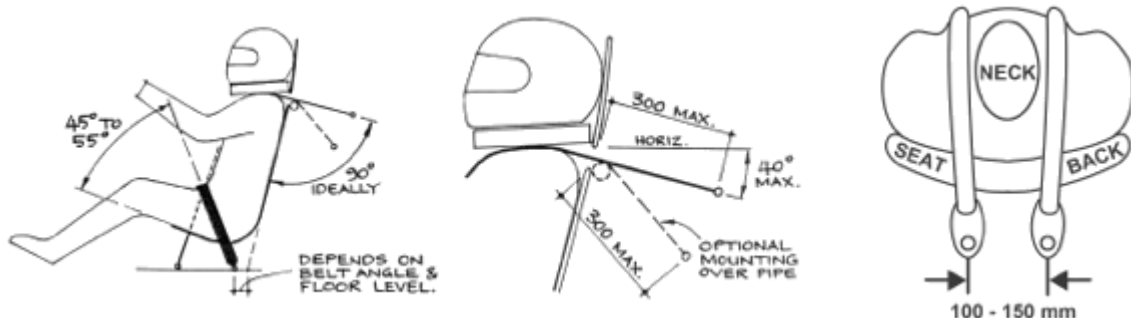

Fig. 1
Shoulder belt mounting points shall be positioned to the rear and below the point, at which the shoulder belts come through the seat and be not more than 300mm from that point, attached to 38x3mm CHS or 38x2.6mm CHS (CDS). See Fig 1
1. If using a **non SFI/FIA approved proprietary** manufactured full competition/containment style seat which is constructed of aluminium. Refer to Seat Fig 1.
**Seat Fig 1**